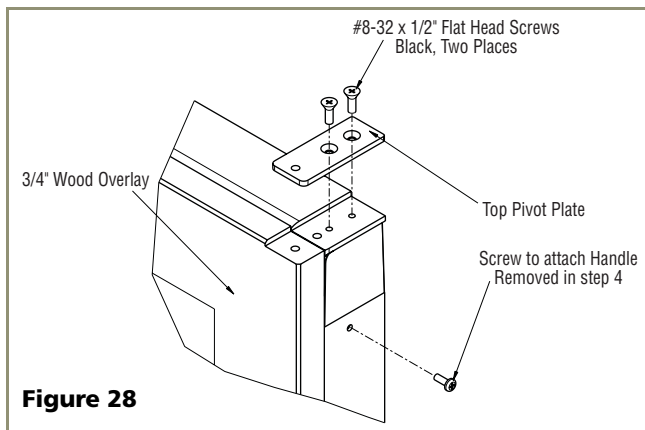

Figure 28
4. Attach Top Pivot Plate to door handle, on side where hinges will be. Use the two #8-32 x 1/2" Flat Head Phillips screws (Black) supplied with kit (see **Figure 28**).